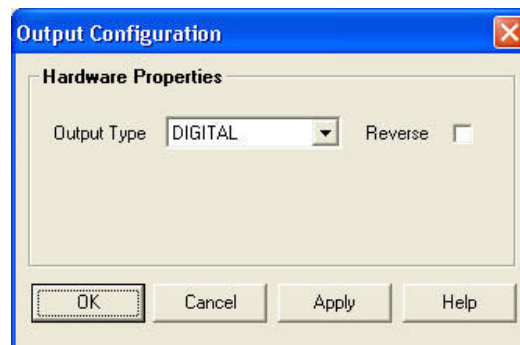

Figure 15: Duct Heating Output Configuration
4. Select Hardware1 from the Stage1 drop-down menu. The Output Configuration window opens (Figure 15).